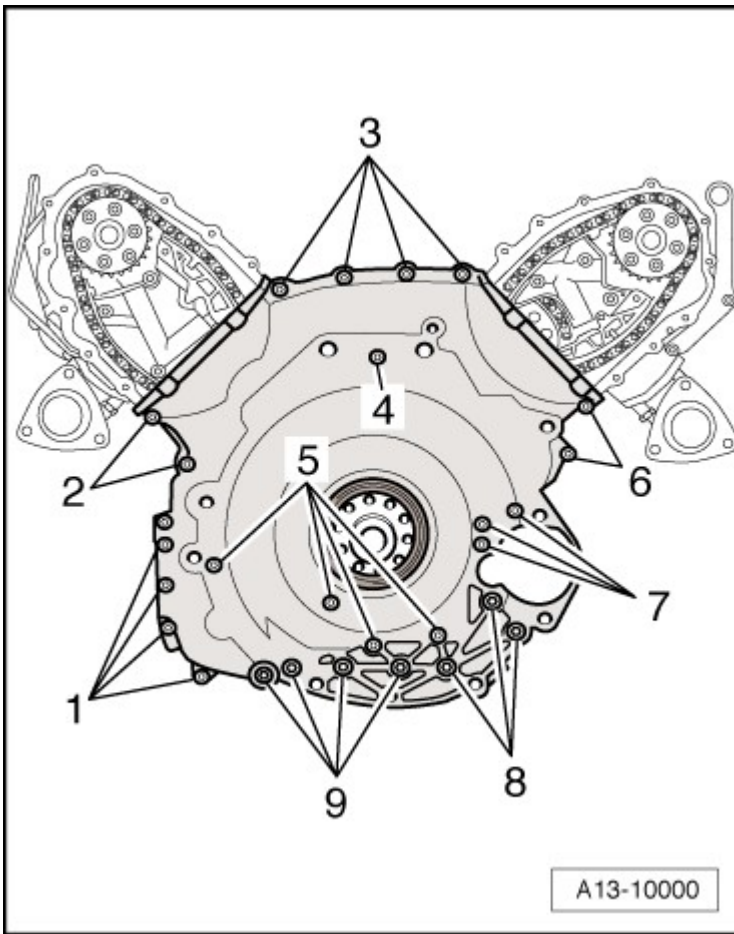

Fig. 11: Identifying Lower Timing Chain Cover Bolt Tightening Sequence and Specification
- Tightening specification and sequence, refer to **Fig. 11**